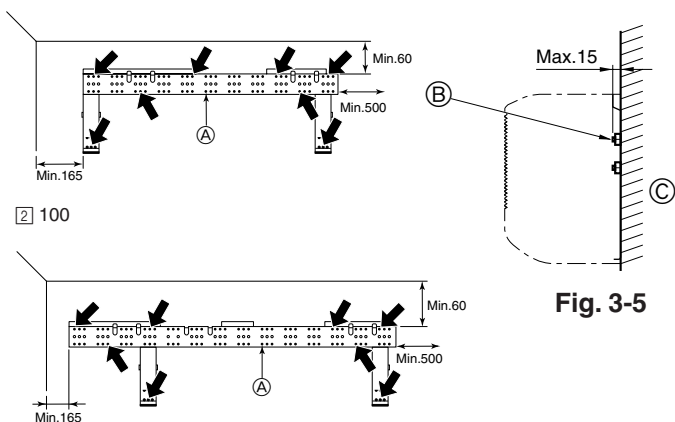

Fig. 3-4
- ▶ The mounting fixture must be secured at both ends and at the centre, if possible. Never fix it at a single spot or in any nonsymmetrical way. (If possible, secure the fixture at all the positions marked with a bold arrow.) (Fig. 3-4)